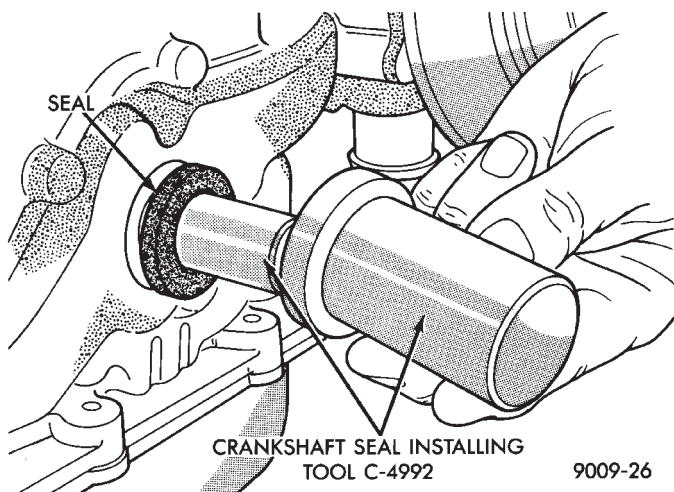
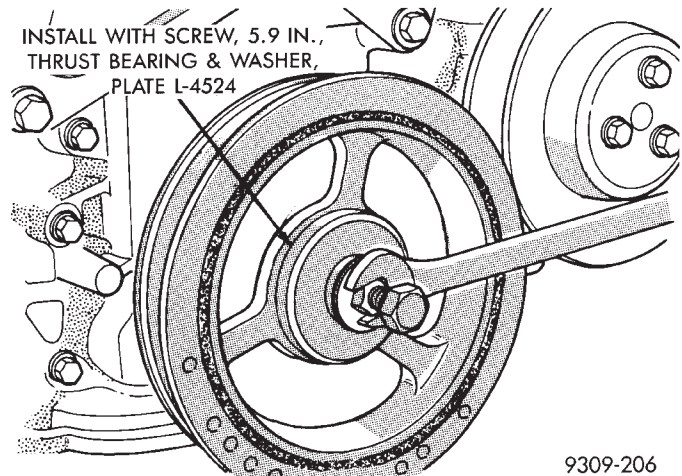

Fig. 6 Install Crankshaft Oil Seal
Fig. 7 Installing Crankshaft Pulley
(7) Install crankshaft oil seal (Fig. 6).
(8) Install crankshaft pulley (Fig. 7).
- (1) Install new seal by using Tool C-4992 (Fig. 6).
- (2) Place seal into opening with seal spring towards the inside of engine. Install seal until flush with cover.
- (3) Install crankshaft pulley using plate L-4524. Thrust Bearing/washer and 5.9 inch screw (Fig. 7).
- (4) Install accessory drive belt. Refer to Cooling System Group 7 for installation procedure.